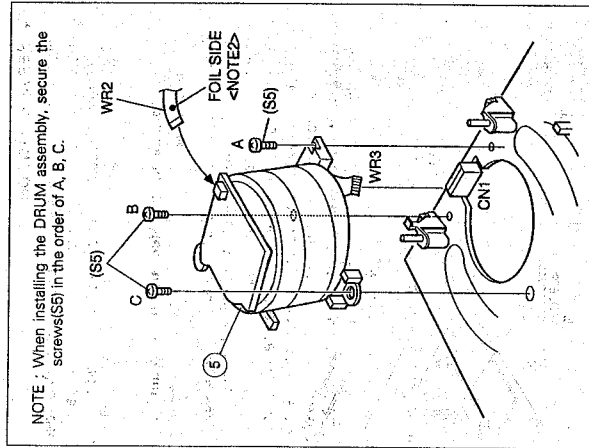
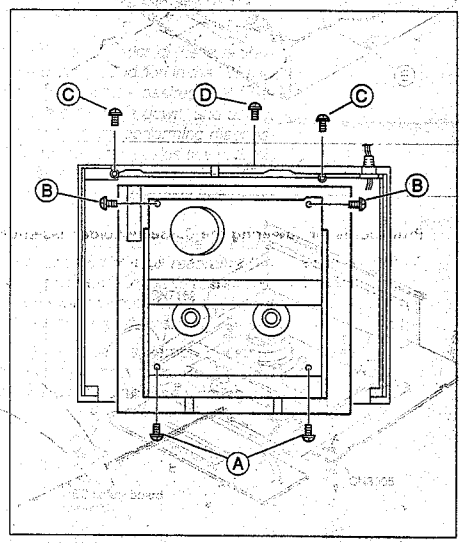

Fig. D5
Fig. 1-4-1
- (1) Remove the Top cover, Bracket and Front panel assembly. (See 1.3 DISASSEMBLY/ASSEMBLY METHOD. Take care not to pull the drum wire (Fig.D5) from CN1).
- (2) Lower the cassette holder, and make the preparations required in order to remove the screws from the Main deck assembly. (Refer to the "Procedures for Lowering the Cassette holder assembly" on pages 1-3 of 1.3 DISASSEMBLY/ASSEMBLY METHOD).
- (3) Take out 2 screws (A) and 2 screws (B) as shown in Fig. 1-4-1.
- (4) Remove the flat wires from CN7162 and CN3005 on the Main board assembly.
- (5) Take out 2 screws (C) and take out 1 screw (D) to install the Bottom cover. (See Fig. 1-4-1).